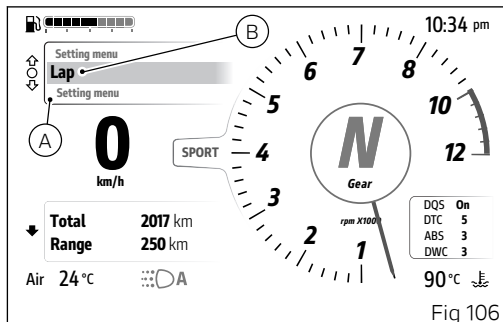

Fig 106
- Select the Interactive Menu (A, Fig 106) by pressing and holding button (1) pressed for a long time.
- Use buttons (1) and (2) to select item Lap (B, Fig 106) and press the ENTER button (3).